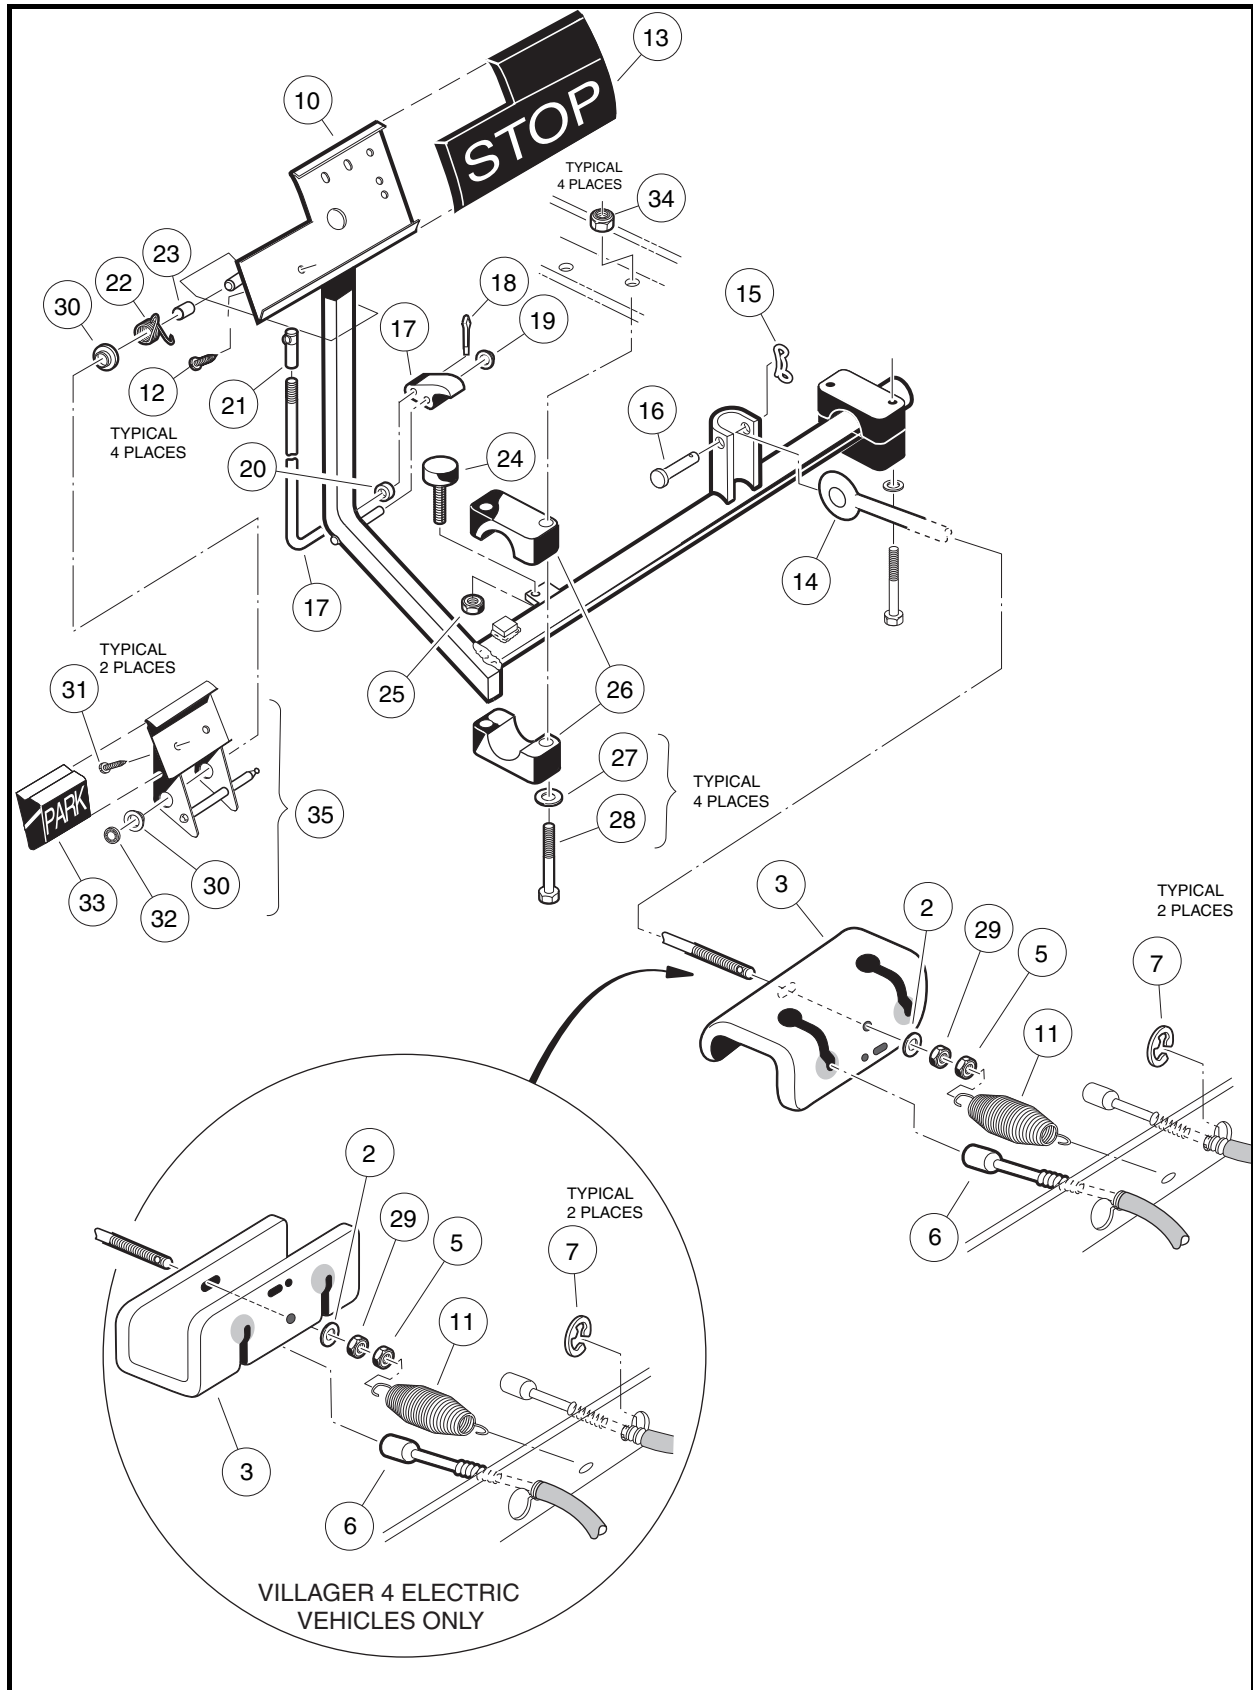
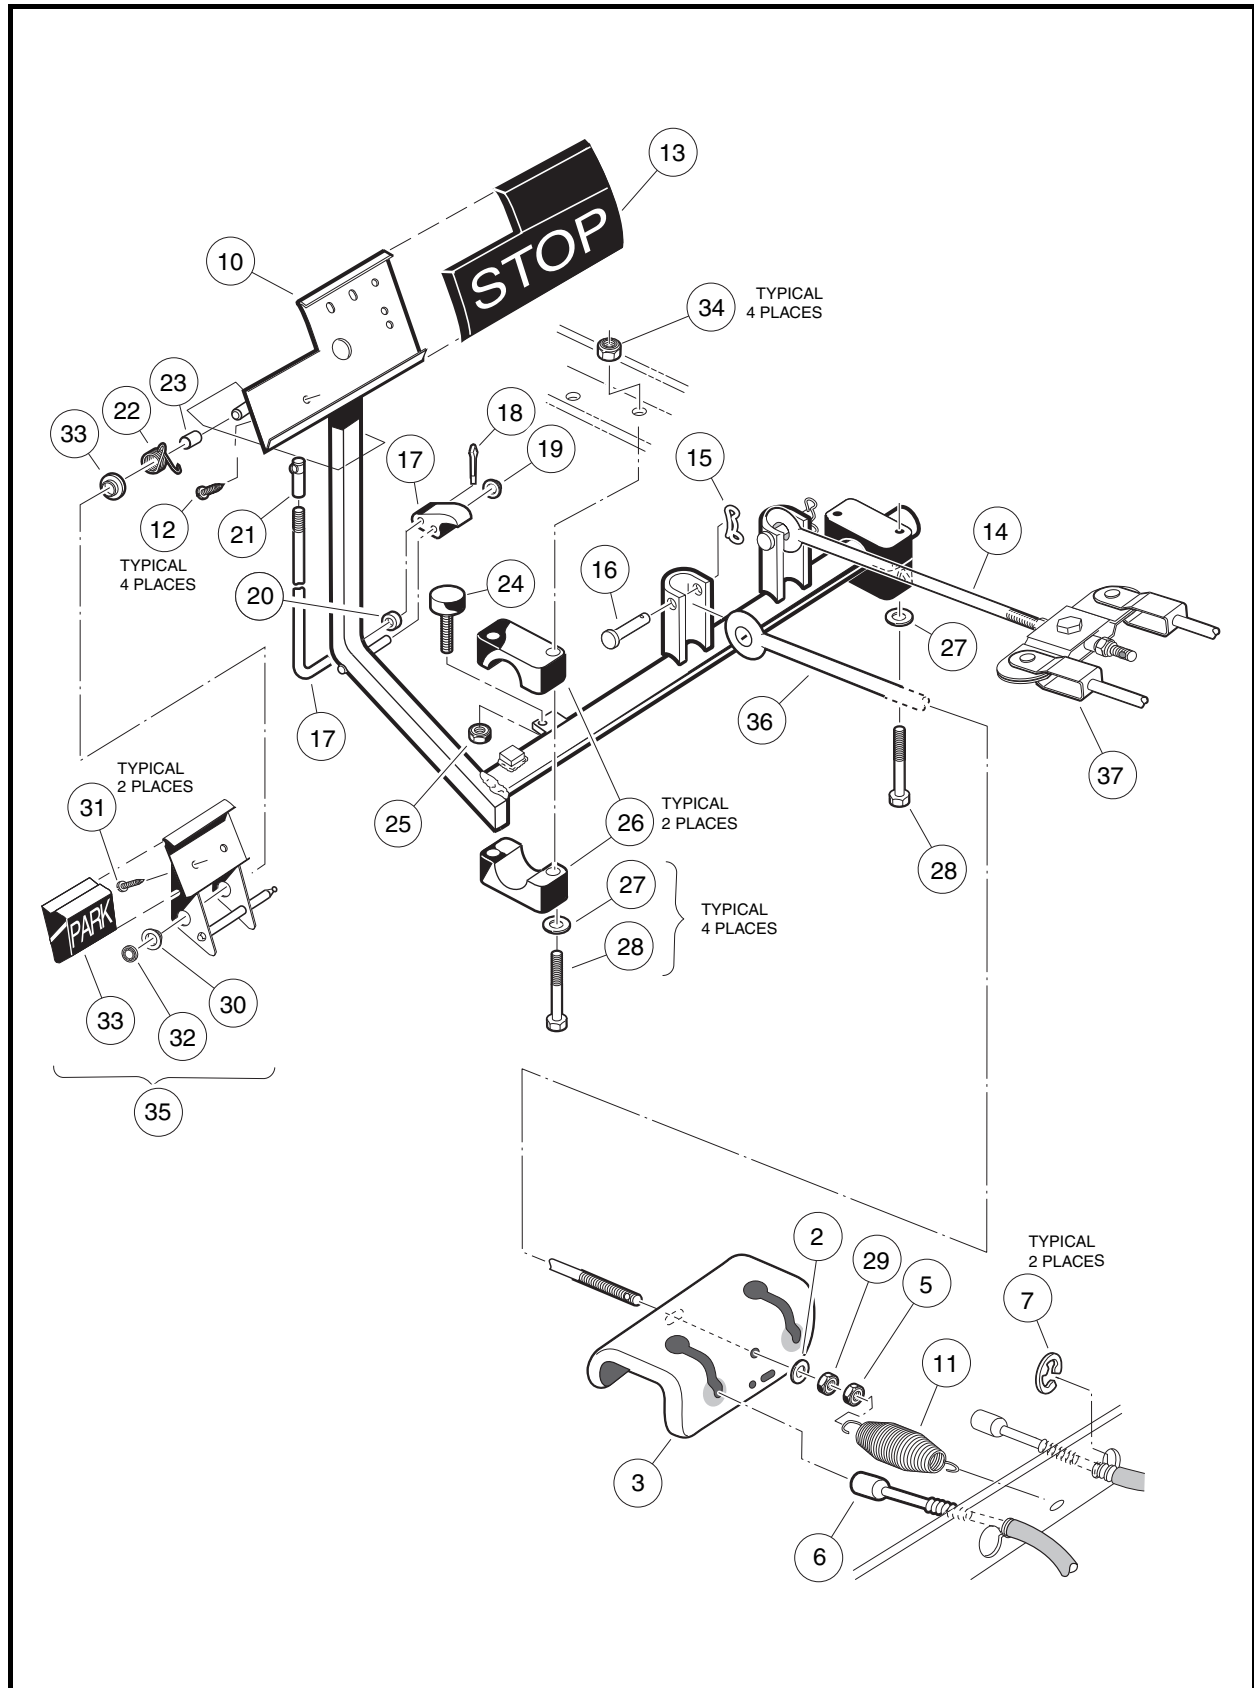
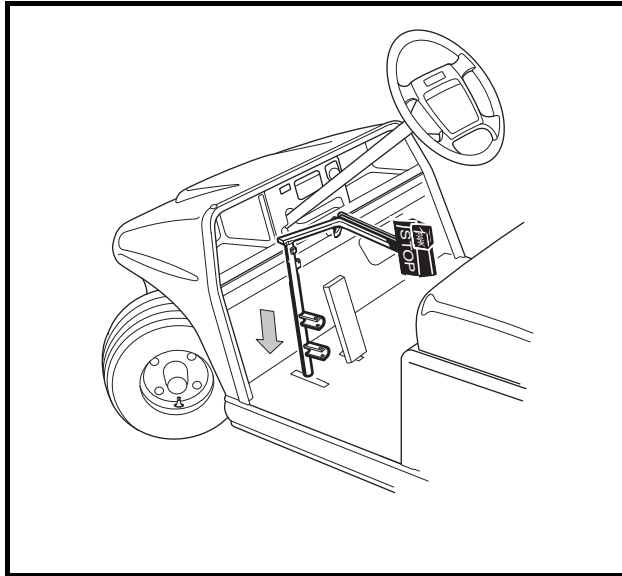

Figure 5-1 Brake and Park Brake Pedal Assembly and Mounting – Two-Wheel Brake Vehicles
Figure 5-2 Brake and Park Brake Pedal Assembly and Mounting – Four-Wheel Brake Vehicles
Figure 5-3 Brake Pedal Weldment Through Floor
- 3.1. Disconnect the equalizer rod(s) (14 and 36) from the pedal shaft by removing the clevis pin(s) (16) and bow-tie pin(s) (15) **(Figure 5-1, Page 5-2 or Figure 5-2, Page 5-3).**
- 3.2. Remove the nuts (34), flat washers (27), bolts (28), and mounting blocks (26). If the mounting blocks (26) show signs of excessive wear or are damaged, they must be replaced with new ones before installing pedal assembly **(Figure 5-1, Page 5-2 or Figure 5-2, Page 5-3).**
- 3.3. Remove the nut (25) and brake stop bumper (24) (**Figure 5-1, Page 5-2 or Figure 5-2, Page 5-3**).
- 3.4. Lift the pedal assembly (10) through the floorboard (**Figure 5-3, Page 5-4**).
1. From the top side of the floorboard, insert the brake pedal assembly (10) (**Figure 5-1, Page 5-2 or Figure 5-2, Page 5-3**) through the opening in the floor as shown (**Figure 5-3, Page 5-4**) and install the brake pedal stop bumper (24) (**Figure 5-1, Page 5-2 or Figure 5-2, Page 5-3**) on the brake pedal assembly, but do not tighten the jam nut (25) at this time.
2. Secure the equalizer rod(s) (14 and 36) to the brake pedal assembly (10) with clevis pin(s) (16) and bow-tie pin(s) (15) as shown (**Figure 5-1, Page 5-2 or Figure 5-2, Page 5-3**). See following NOTE.
3. Position and attach brake pedal assembly, mounting blocks (26), and washers (27) to vehicle frame as shown. Tighten the bolts and nuts to 95 in-lb (10.7 N·m) (**Figure 5-1, Page 5-2 or Figure 5-2, Page 5-3**).
- 3.1. To remove the park brake rod and pawl assembly (17 through 20), remove the push nut (19) and disconnect the ball joint sleeve (21) from the park brake pedal (35) (**Figure 5-1, Page 5-2 and Figure 5-2, Page 5-3**). **See following NOTE.**